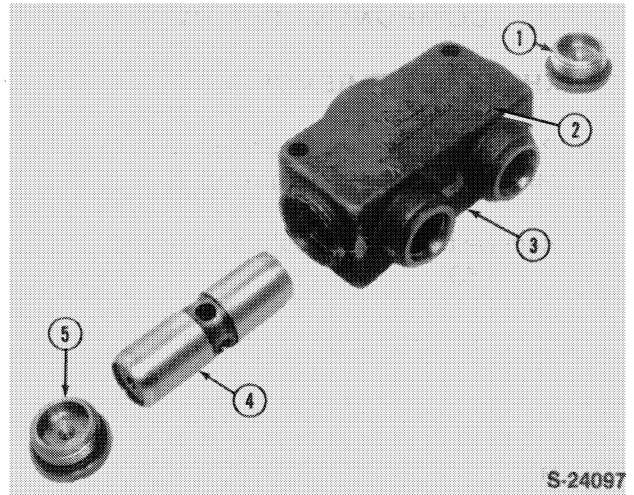

Figure 52
1. Remove the screw plugs on each end of the valve housing, Figure 52.
The valve spool has two different diameter holes on the ends, therefore it must be installed correctly. The letters A and B are embossed on the outside of the housing, Figure 52. Lubricate all parts before assembly.